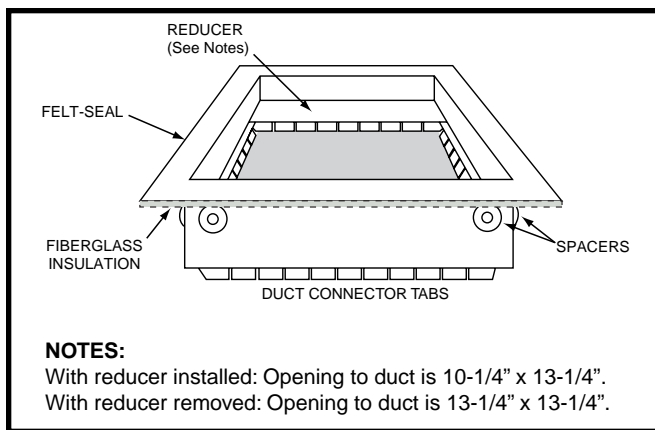

Figure 12. Duct Connector
- NOTE:** The furnace may be installed on combustible flooring when installed on a Nordyne duct connector (Figure 12, page 16). This factory supplied accessory must be installed in the floor cavity and attached to the supply air duct before the downflow furnace is installed.
The *RL series gas furnace is certified for use on wood flooring or supports, but must be installed on a special duct connector (Figure 12). This factory supplied accessory must be installed in the floor cavity and attached to the supply air duct before the downflow furnace is installed.